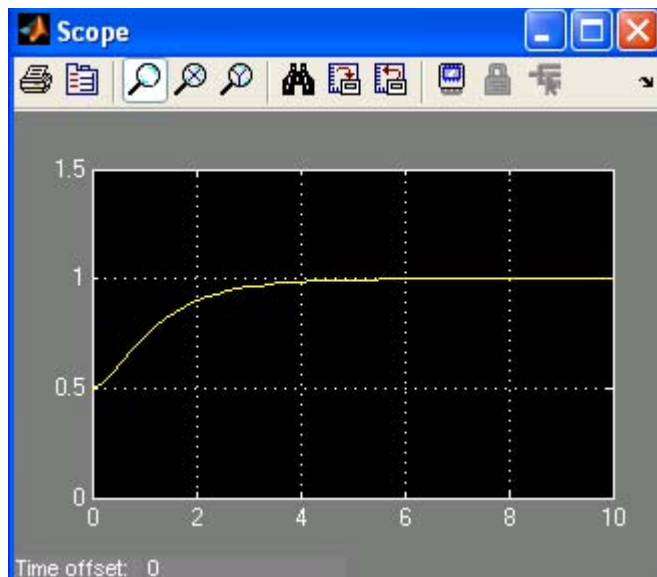
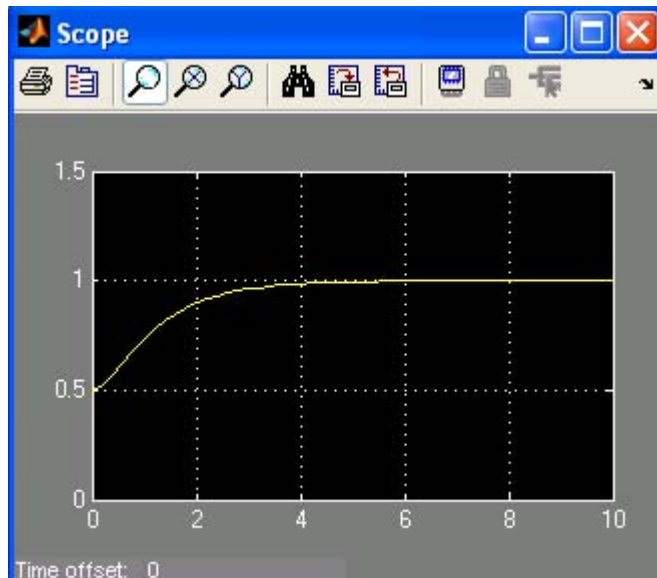

Figure 1.13. The waveform for the function $v_C(t)$ in Example 1.1
Figure 1.16. The waveform for the function $v_C(t)$ for Example 1.1 with the State–Space block.
9. To see the output waveform, we double click the **Scope** block, and then clicking on the Autoscale  icon. Then we right-click near the vertical axis, we click on **Axes properties**, we specify **Y-min** = 0, **Y-max** = 1.5, we click **OK**, and we obtain the waveform shown in Figure 1.13. Henceforth, we will use this procedure to scale the vertical axis in our subsequent **Scope** block displays.
As before, to start the simulation we click the  icon, and to see the output waveform, we double click the **Scope** block. Then we click on the **Autoscale**  icon, and we scale the vertical axis as we did with the waveform of Figure 1.13. The waveform shown in Figure 1.16.